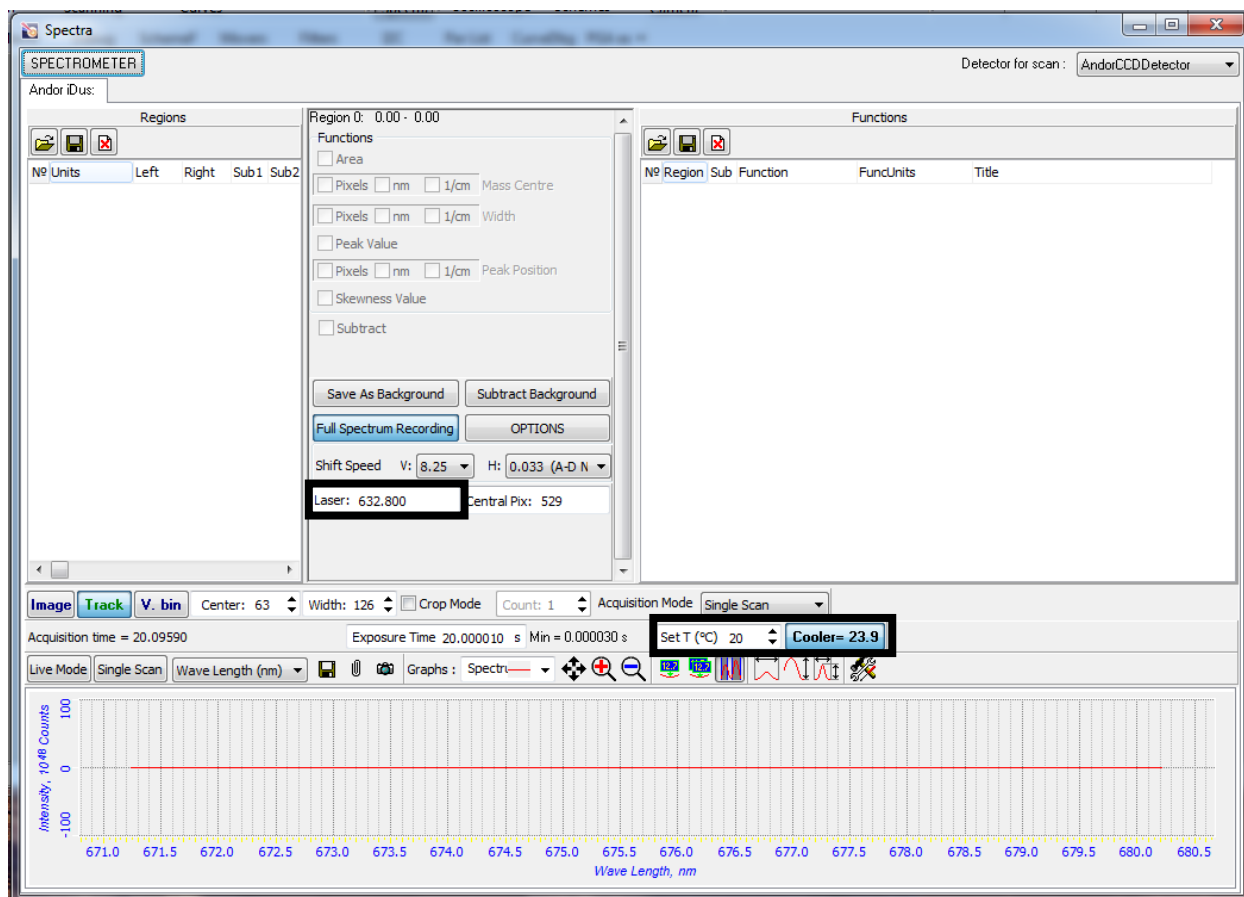

Figure 2: Main Spectra menu with acquisition parameters
- The CCD detector needs to cool to a range of (-60 to -65) enter -65 in the Set T box (Figure 2).
- Enter the proper laser wavelength in nm in the Laser box (Figure 2).